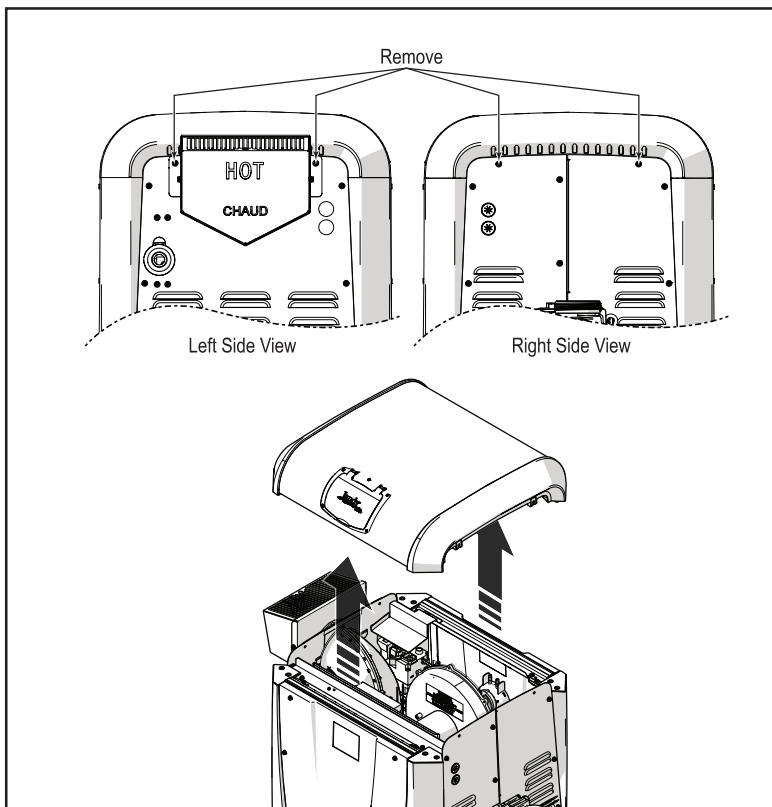

Figure 3. Remove Top Panel
3. Remove four (4) screws to take off the heater top panel (Figure 3). Take care not to damage or abrade any of the wiring.